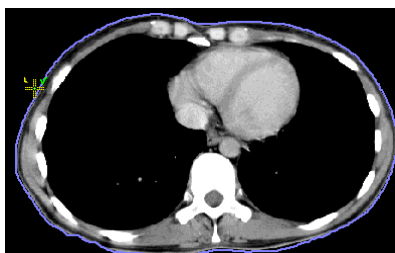

Figure 272 – Defining the left point of the bolus
- Define the leftmost point of the bolus by clicking the contour. The cursor marked as **L** will also be displayed with a green tick when it reaches the contour line of the currently selected ROI (see Figure 272).